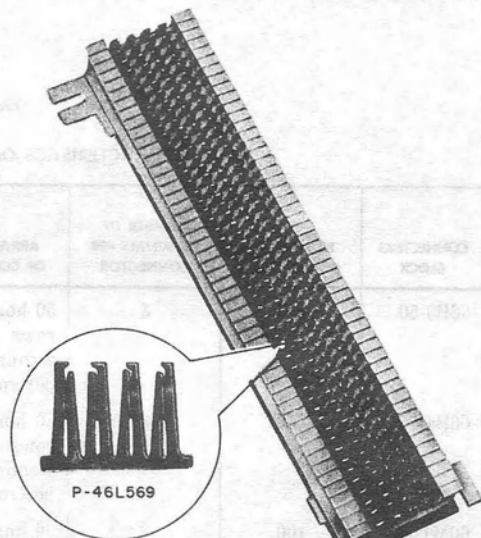

Fig. 7—66M1-25 Connecting Block
2.04 The 66M1-25 connecting block (Fig. 7) is identical in construction to the 66M1-50 connecting block except that each row of terminals consists of one P-46L569 connector with four interconnected terminals. This block is molded from a gray fire-retardant plastic and can be easily distinguished from the white 66M1-50 connecting block.